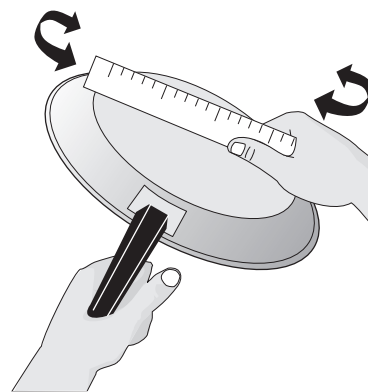
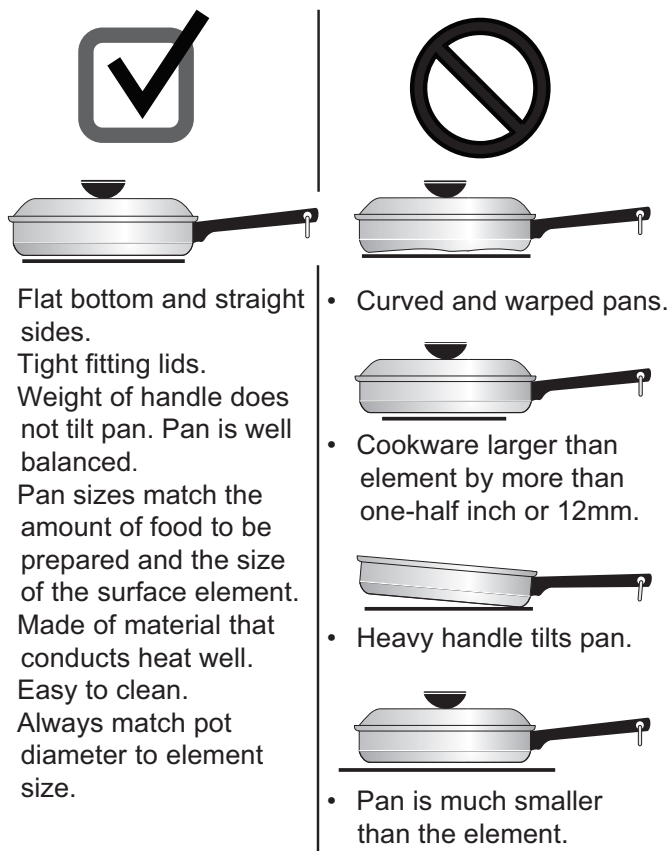

Figure 3: Testing cookware
Figure 4: Proper cookware
Once in place, you may check the fit by gently sliding the burner cap from side to side (Figure 3) to be sure it is centered and firmly seated. When the burner cap lip makes contact inside the center of the burner head you will be able to hear the burner cap click
The size and type of cookware used will influence the heat setting needed for best cooking results. Be sure to follow the recommendations for using proper cookware as illustrated in "Figure 3: Testing cookware" and "Figure 4: Proper cookware".
Check for flatness by rotating a ruler across the bottom of the cookware (see "Figure 3: Testing cookware"). Cookware should have flat bottoms that make good contact with the entire surface of the heating element
- Make sure the burner grates are properly placed on the cooktop before using the surface burners (Figure 4). The grates are designed to rest inside the recess on the cooktop.